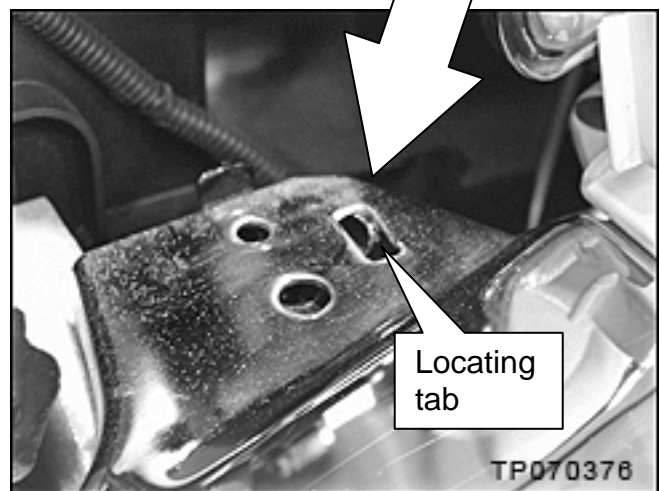

Figure C-18
- a. Lift bumper ON the locating tabs; both sides (see Figure C-18).